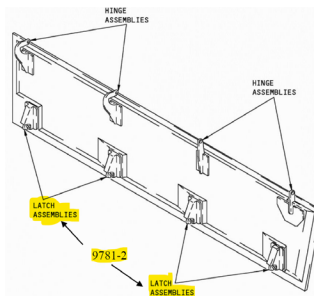

Figure 1: Example Aft Fairing Access Panel Installation (typical B767 Series Aircraft)
Shown below in Figure 1 is a example of a typical installation of the P/N 9781-2 Latch Assy on the Aft Fairing Access Panel. Some installations have four (4) subject Latch Assy's and four (4) Hinges (as shown below for Boeing 767 aircrafts), while others have only two (2) Latch Assy's and two (2) Hinges. The installation instructions as applied to P/N 9781-2 for the eligible aircraft (refer to the TK Supplement(s) for specific make and models) are also applicable to TK P/N 9781-2IKT and are unaffected by the intentional design deviations or this Supplemental ICA.